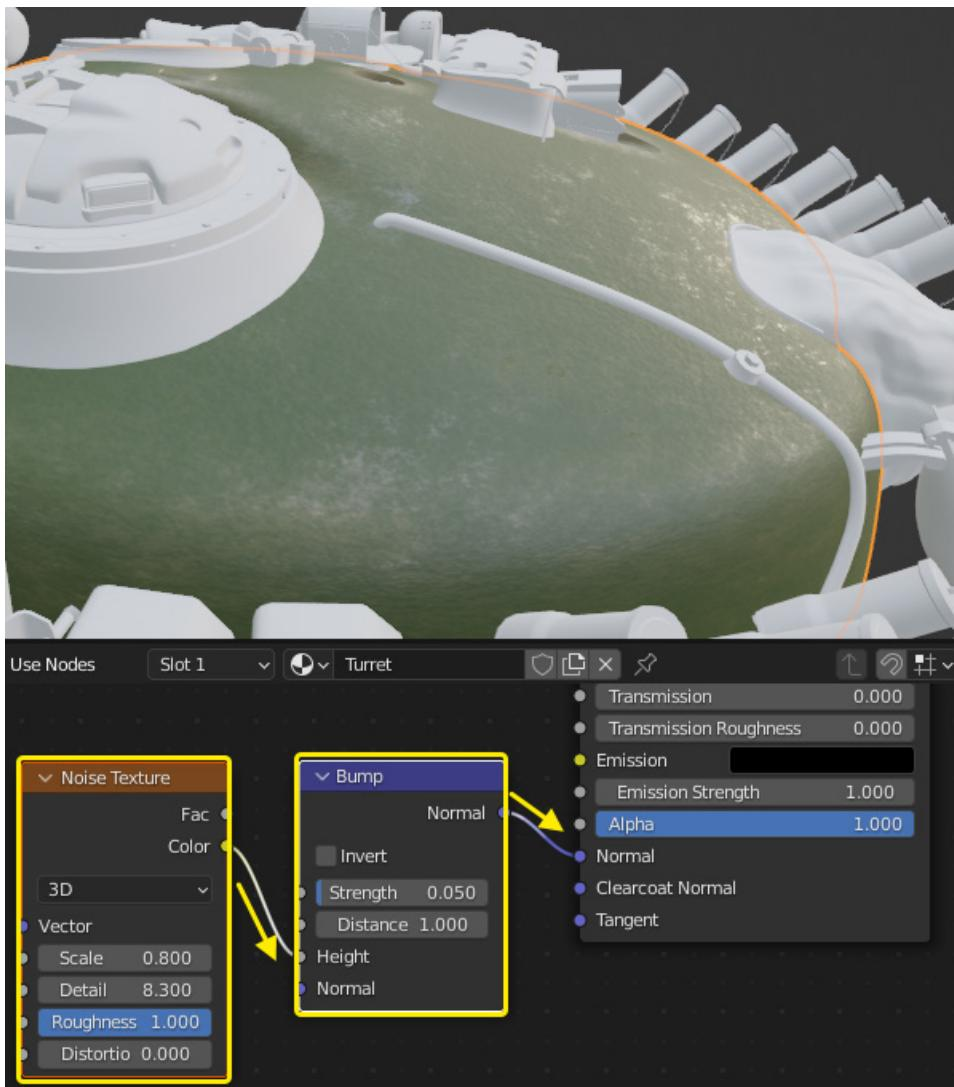

Figure 12.15 – Bump map
- Add a **Noise Texture** node and a **Bump** node with settings like in *Figure 12.15*, and plug them into the **Normal** input of the **Principled BSDF** node.